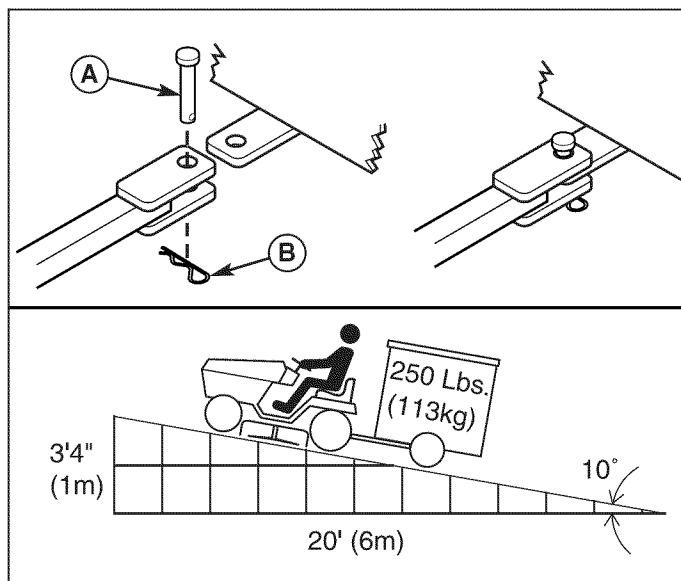

Figure 7. Trailer Weight Recommendations
The maximum horizontal drawbar force allowed is 280 Nm. The maximum vertical drawbar force is 160 Nm. This equates to a 250 lbs (113 kg) trailer on a 10 degree hill. Secure the trailer with an appropriately sized clevis pin (A, Figure 7) and clip (B).